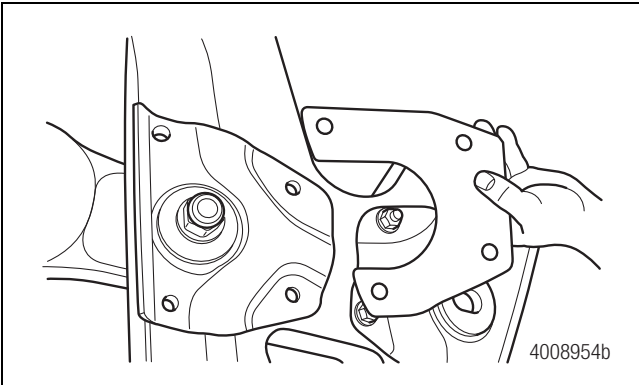

Figure 4
- Place the inside doubler plate inside the frame bracket. Figure 4.